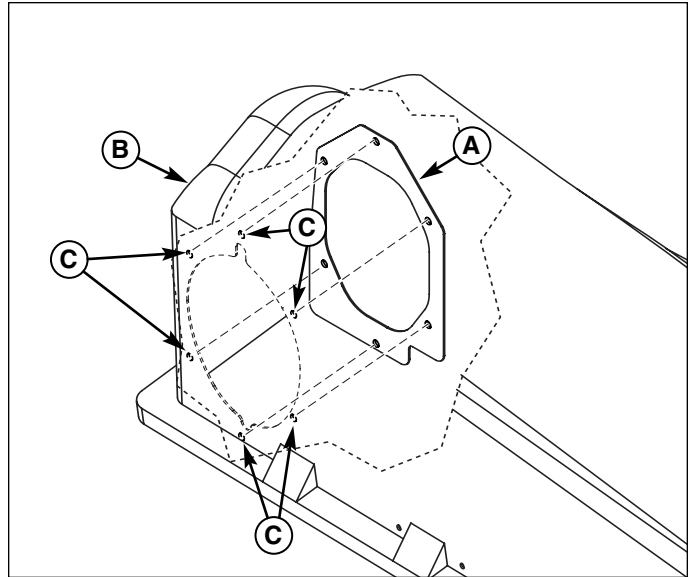

Figure 3. Drill Adapter Plate Holes
- From the inside of grass catcher (B, Figure 3) cover use cover plate (A) as a template to drill six 13/64" holes (C) on grass catcher cover (B) as shown.